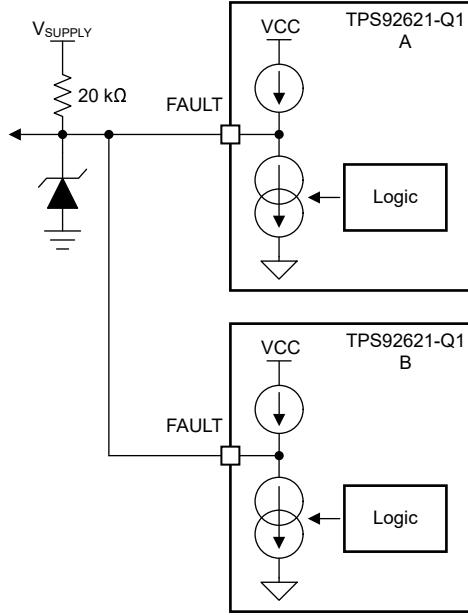
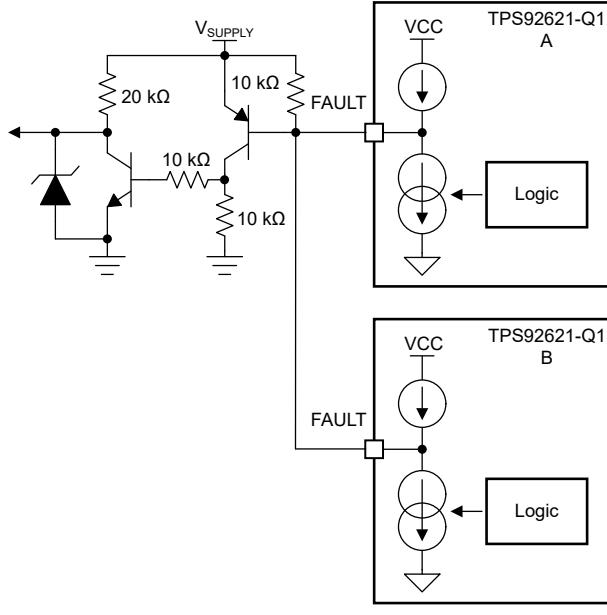

图 7-6. FAULT Bus for One-Fails-All-Fail Application
图 7-7. FAULT Bus for One-Fails-Others-On Application
Based on this feature, the TPS92621-Q1 device is able to construct a FAULT bus by tying  $\overline{FAULT}$  pins from multiple TPS92621-Q1 devices to achieve one-fails-all-fail function as 图 7-6 showing. The lower side TPS92621-Q1 (B) detects any kind of LED fault and pulls low the  $\overline{FAULT}$  pin. The low voltage on  $\overline{FAULT}$  pin is detected by upper side TPS92621-Q1 (A) because the  $\overline{FAULT}$  pins of two devices are connected. The upper side TPS92621-Q1 (A) turns off output current as a result. If the  $\overline{FAULT}$  pins of each TPS92621-Q1 are all connected to drive the base of an external PNP transistor as illustrated in 图 7-7, the one-fails-all-fail function is disabled and only the faulty channel device is turned off.